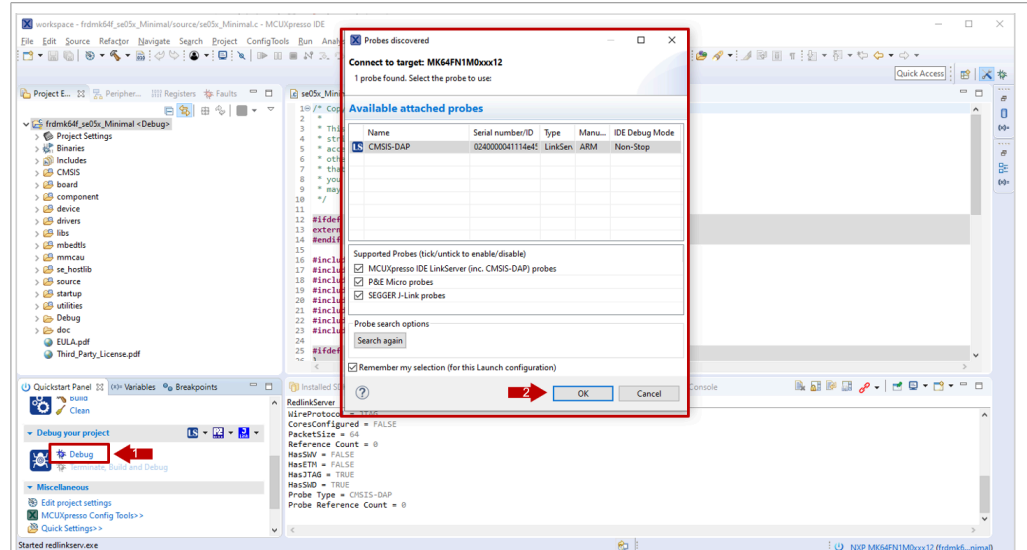

Figure 13. Debug projects in MCUXpresso workspace
- Go to the MCUXpresso Quickstart Panel and click *Debug* button as shown in Figure 13. If there is more than one probe attached, you have to select the CMSIS-DAP debug probe from the list. Wait a few seconds until the project executes